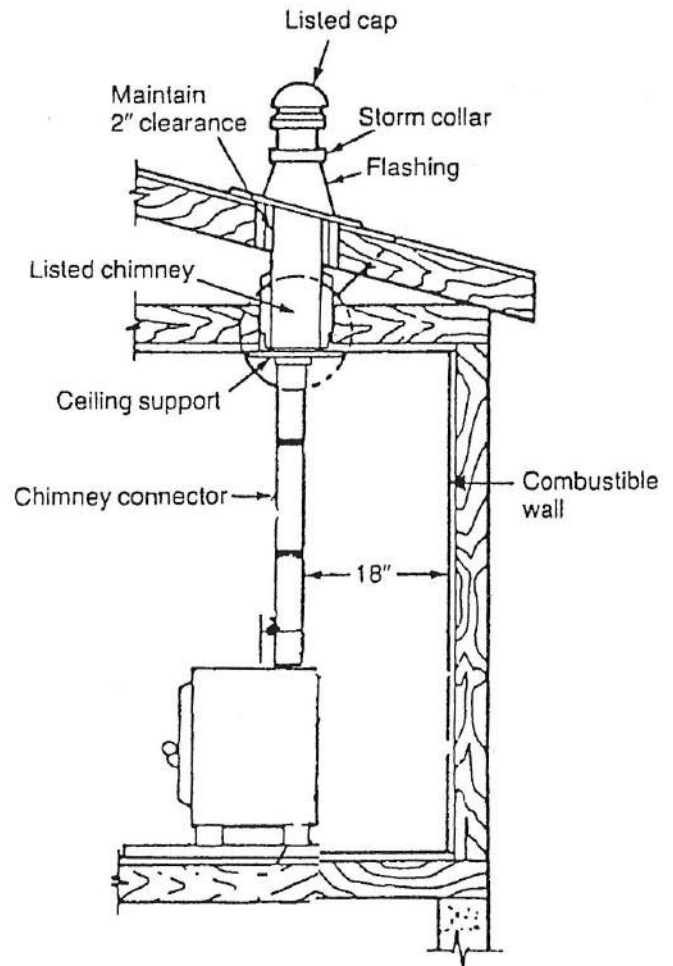

FIGURE 8
Listed prefabricated 2100 degree metal thimbles can be purchased for use. (See figure 8). Installation instructions from the manufacturer must be strictly followed to ensure the safety of the system. Clearances to combustible materials must be maintained. Confirm local building codes for restrictions when connecting stove to masonry thimble through a combustible wall.
2. Install exterior chimney outside the residence. (See figure 8).